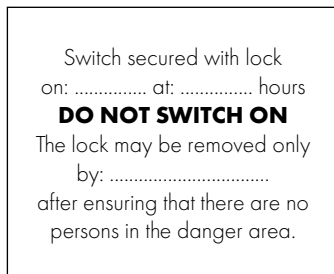

Fig. 7: "Lock secured" sign
2. If possible, secure the switch with a lock and attach a clearly visible sign to the switch as shown in Fig. 7.